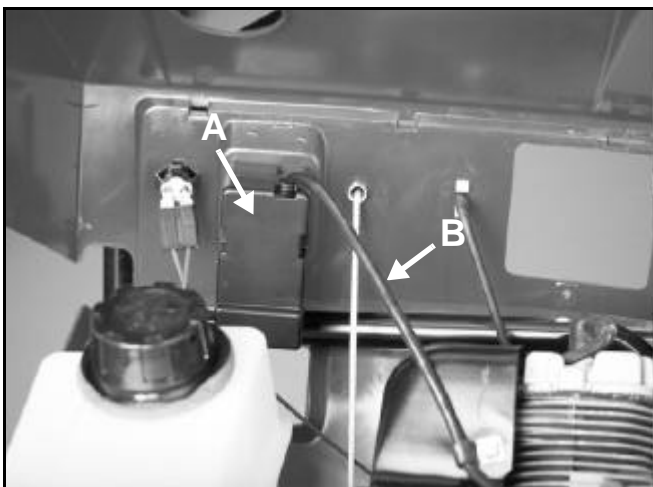
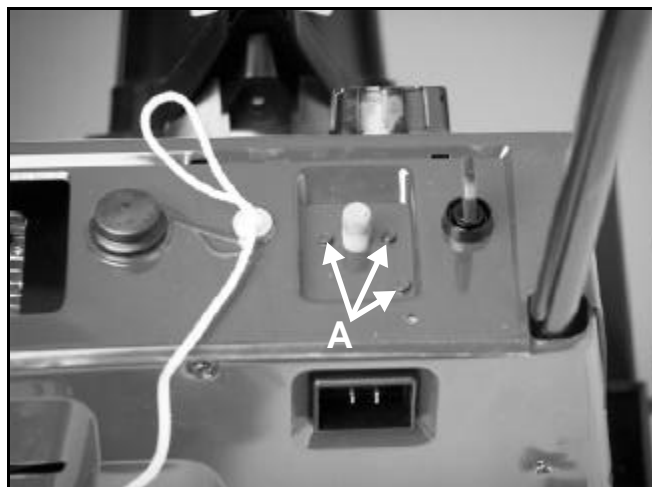

Figure 49 1854-06
Figure 52
5. The upper shroud/fuel tank is retained by one screw in each corner. On electric start models only, remove the three screws surrounding the starter button (Figure 52). These screws hold the switch box to the upper shroud. Unless they are removed the wire harness between the switch box and the starter motor will prevent complete shroud removal (Figure 49). Once they are removed the upper shroud and tank can be lifted enough to remove the primer line, unplug the wiring from the switch and the fuel line from the fitting on the bottom of the tank. **Note:** There might be a small amount of fuel in the fuel line. Be prepared with a shop towel to catch any remaining fuel. Depending on what work is to be done, the shroud could hang from the starter rope. If the engine is to be removed, tie a knot in the starter rope between the recoil starter and the shroud. The knot in the starter handle can now be untied and the rope pulled through the shroud.
Electric Start models only - The electric start switch box is attached to the upper shroud or the control panel (Figure 52). There are 3 screws next to the electric start button that must be removed or the wire harness between the switch box and starter motor will prevent removal of the shroud (on some models) and engine removal on all models. Remove the gas cap and the shroud will lift off.